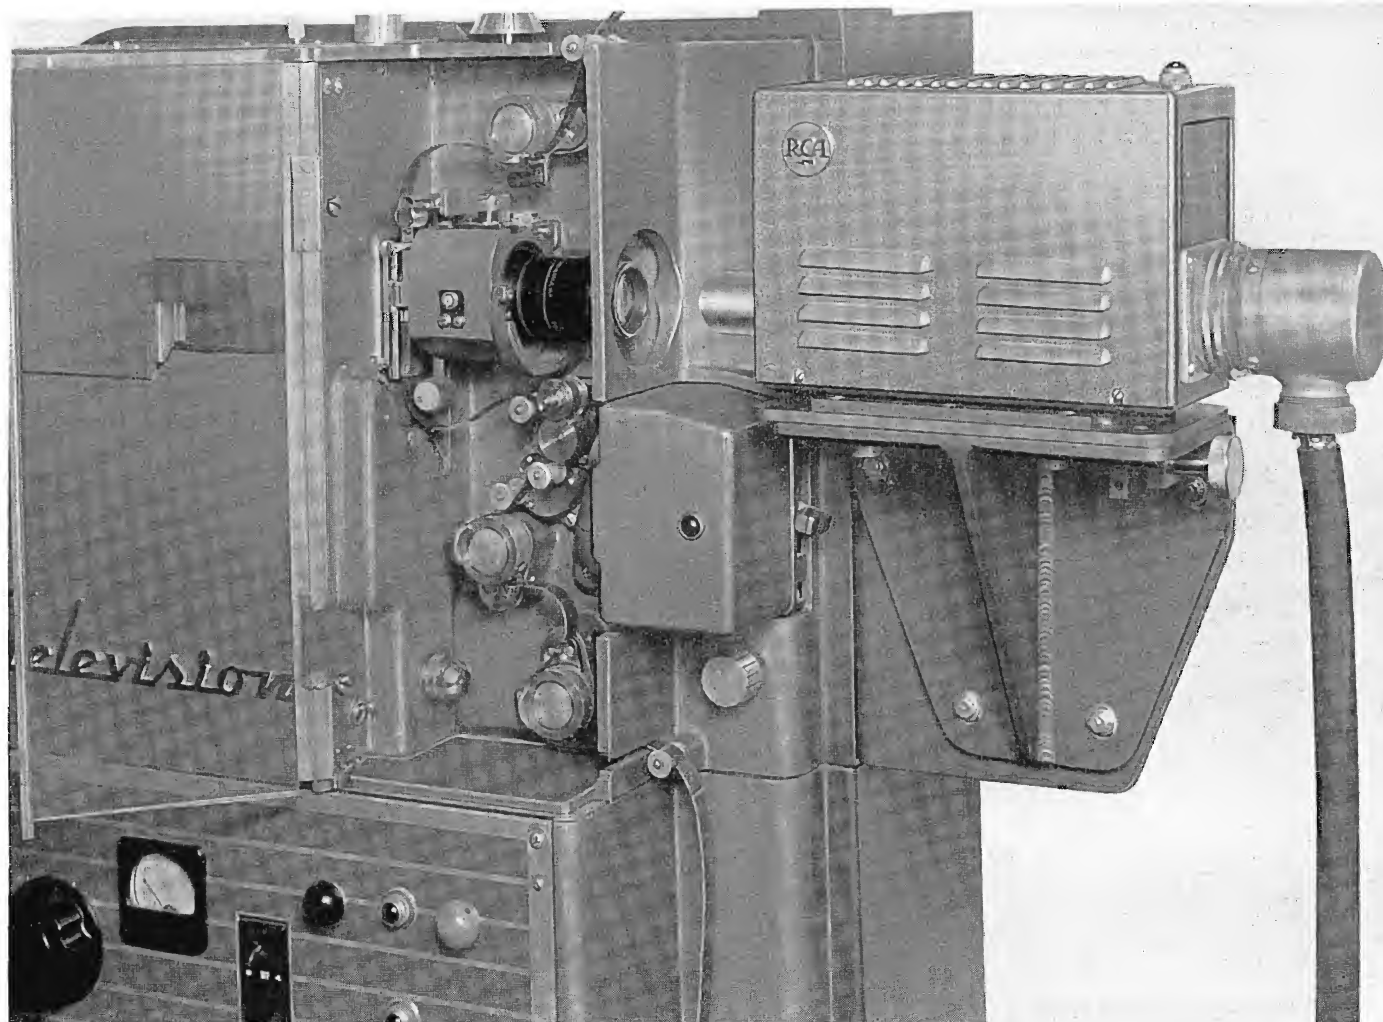

FIG. 1. View of the Vidicon Film Camera shown coupled to an RCA TP-6A Professional 16mm Television Projector.
program of evaluating many hitherto unexplored methods of film reproduction. Our investigations showed that the Vidicon pickup tube offers the greatest possibility for realizing these new objectives. Work on the Vidicon film camera during the past two years has convinced us that it comes closest to meeting the requirements for an ideal film camera. Figs. 1 and 2 show the Vidicon in use—(1) mounted directly on a projector and (2) with a multiplexer.